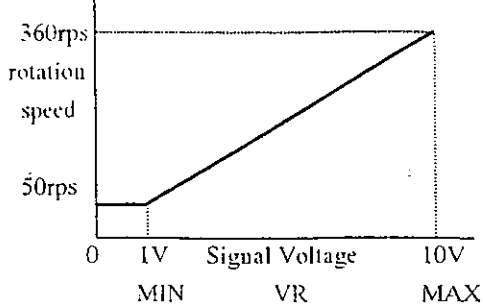

Figure 4. The rotation speed vs. the input signals
- 4) The relationship between the rotation speed and the input signals are shown in Figure 4.